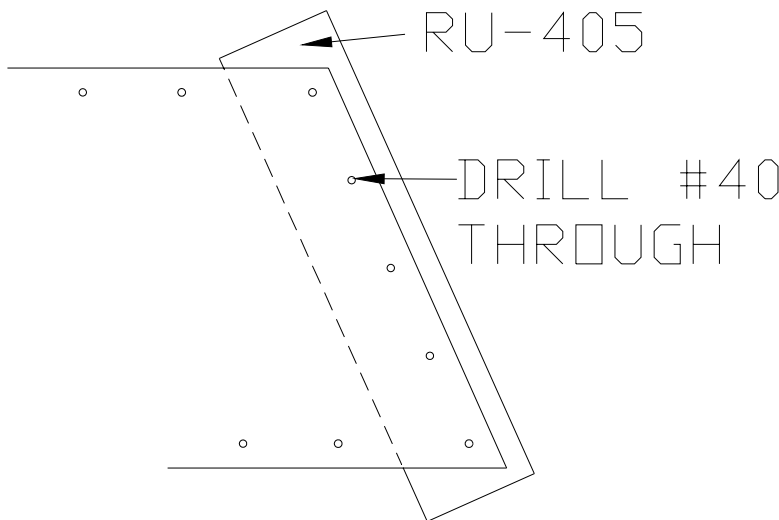

Figure 5.3.6
- 9) Re-install the Skins. Slide the RU-405 Leading Edge Skin so that the Tip Skins (RU-403) overlap. Tape it securely. Using the Tip Skins as a drill guide drill #40 holes through the Leading Edge Skin. Cleco. Figure 5.3.6.